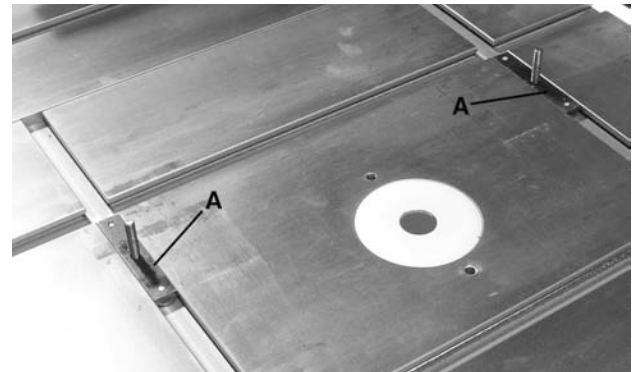

FIGURE 7
- 1) Slide both fence T-slot bars (A) Fig.7 into the desired set of T-slots as shown in Fig.7.